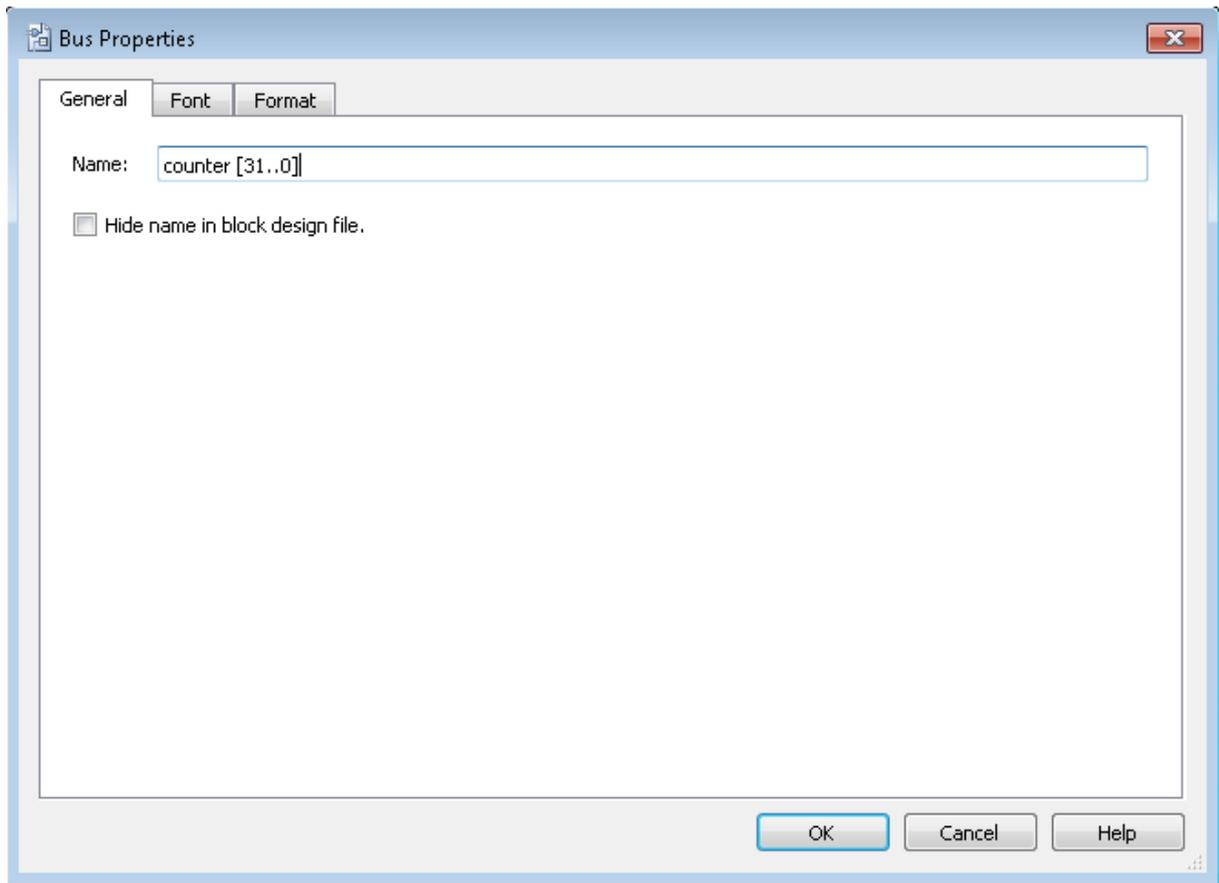

Figure 3-20 Change the output BUS name
- j. Type `counter [31..0]` as the bus name (see **Figure 3-20**). The notation `[X ..Y]` is the Quartus II method for specifying the bus width in BDF schematics, where X is the most significant bit (MSB) and Y is the least significant bit (LSB).